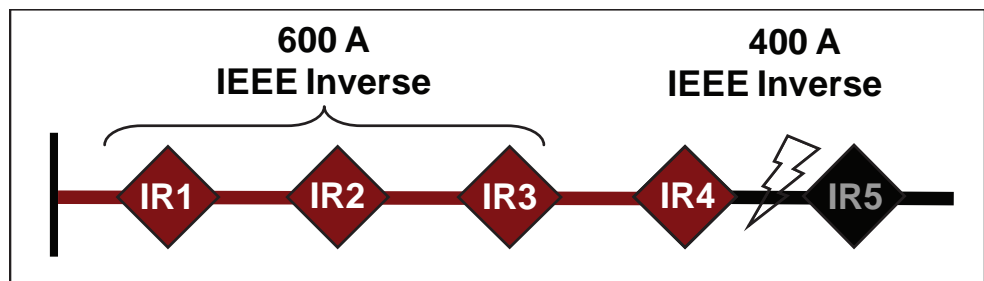

Figure 25. CEC permanent fault; IR2 and IR3 shift to a slower TCC curve.
- IR2 and IR3 shift to a slower TCC curve. See Figure 25 on page 44.